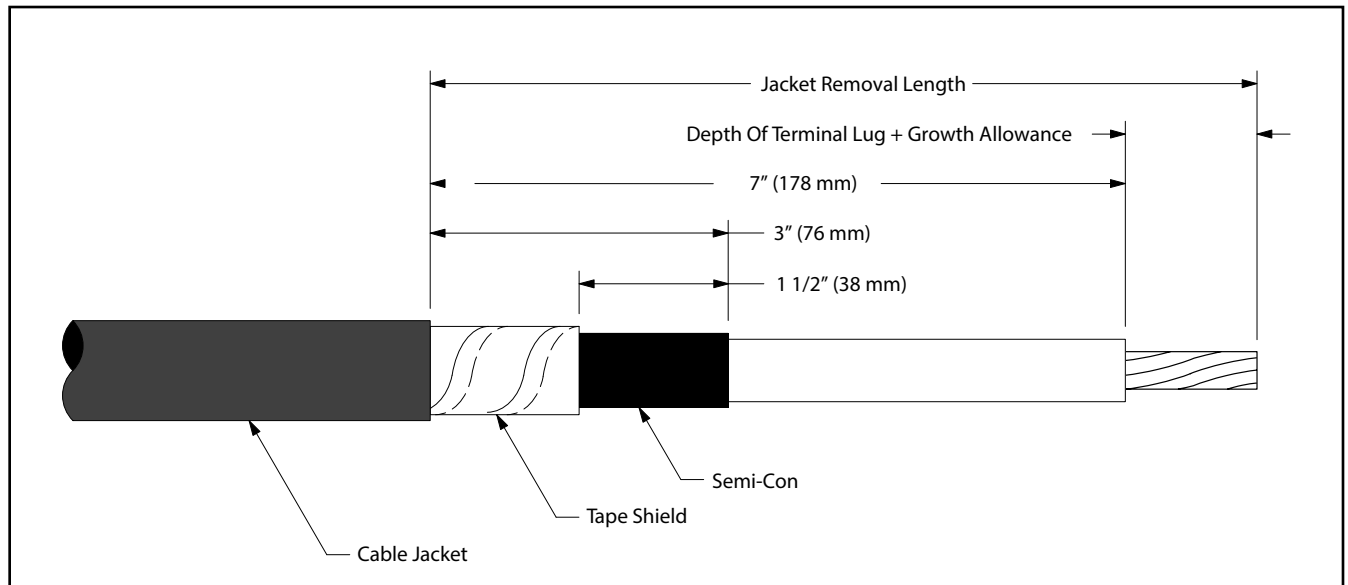

Figure 1
- 2.2 Prepare cable using dimensions shown in Figure 1. **BE SURE TO ALLOW FOR DEPTH OF TERMINAL LUG.** If necessary, to prevent metallic tape shield from unrolling, hold down edge with a single wrap of 3M™ EMI Copper Foil Shielding Tape 1181.